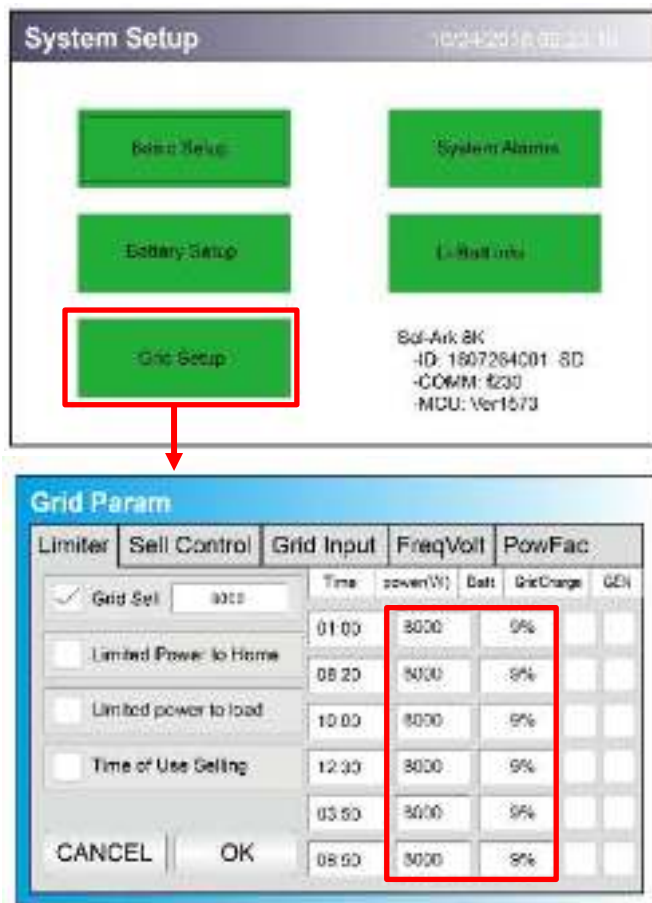

Figure 21.0 – Limiter Tab in Grid Setup Menu
The **power (W)** column in Figure 21.0 above dictates the maximum amount of power pulled from the batteries and should be set to the PHI battery bank's maximum discharge rate in AC Watts. To calculate the connected PHI battery bank's maximum discharge Watts (AC):